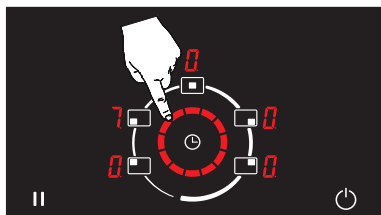

Figure 36
2. The cooking area for which the auto cooking function (**A**) is set is adjusted to the required temperature level using the rotating slide control and the auto cooking function (**A**) is terminated. (See Fig. 36)